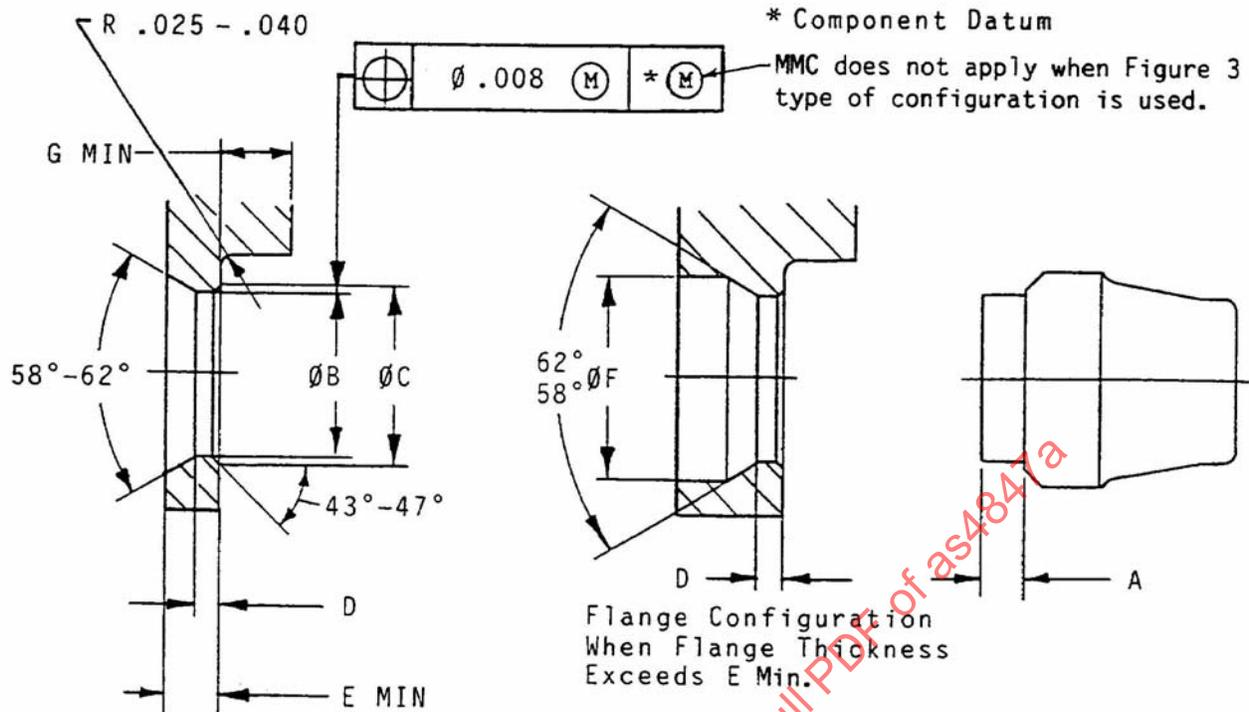

FIGURE 2 - DIMENSIONS OF FLANGE HOLE AND SHANK LENGTH
Dimensions D, E min, and the 60 degree countersink are design requirements to ensure that the expansion of the nut shank A, on flaring, is held to a maximum of 115% of its shank OD. See Figure 2 and Table 2.
- 3.2.1 Table 2 and Figure 2 is based on standardizing the use of one shank length for each nut size on all flange thicknesses; thus, rationalizing the number of nuts to be used.